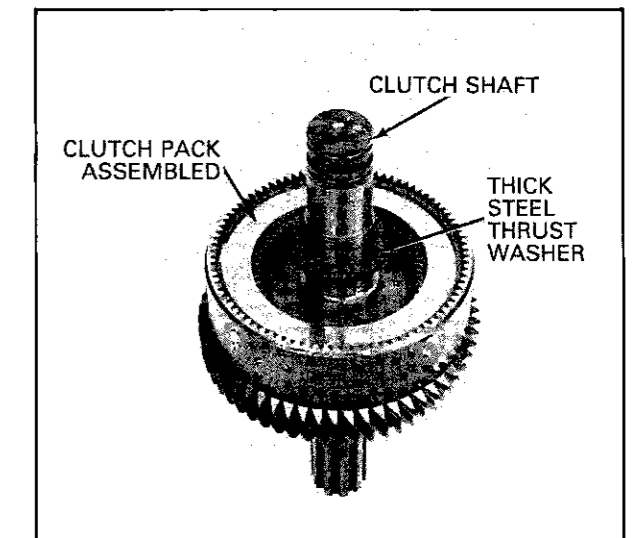

FIG. 27 THRUST WASHER ON CLUTCH SHAFT INSTALLATION
24. Assemble a steel thrust washer over the engine rotation clutch shaft and position against the shoulder of the shaft (Fig. 27). Install a steel and then a vespel thrust washer for the opposite engine rotation clutch.